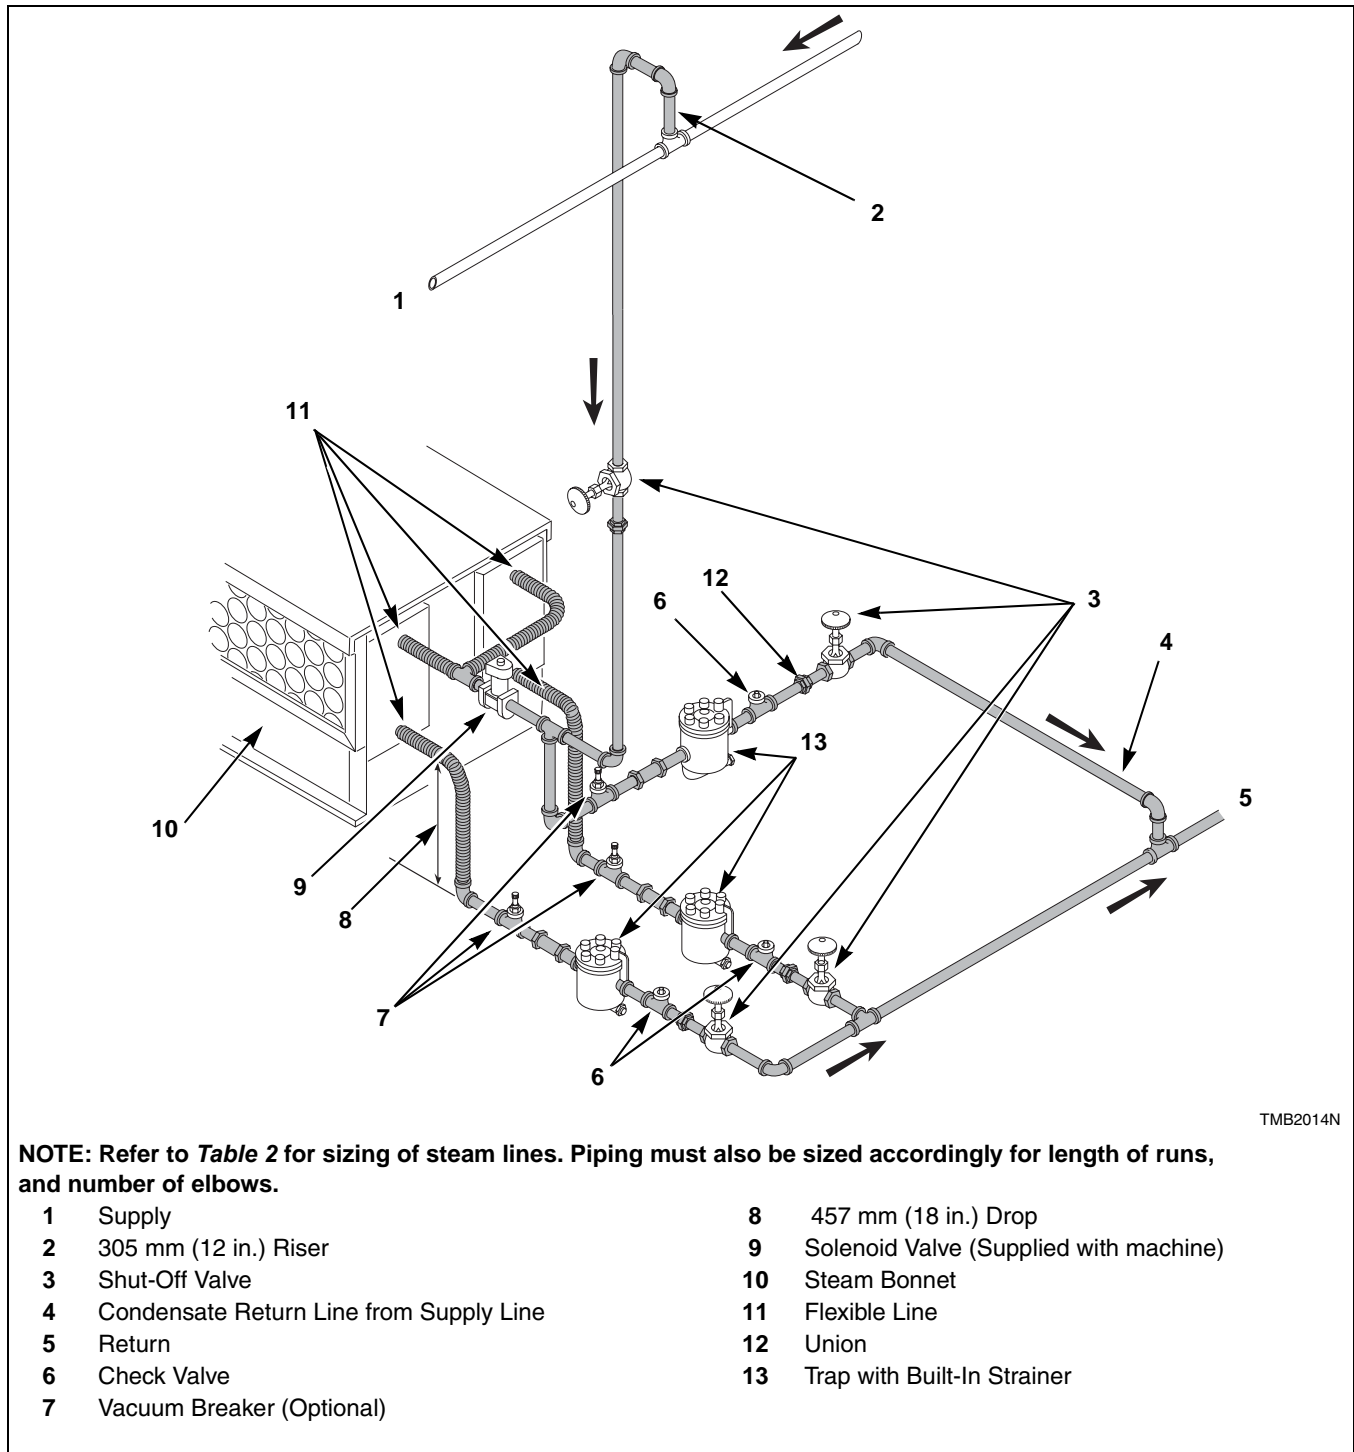

Figure 3
- Refer to *Figure 3* for proper steam pipe configurations.